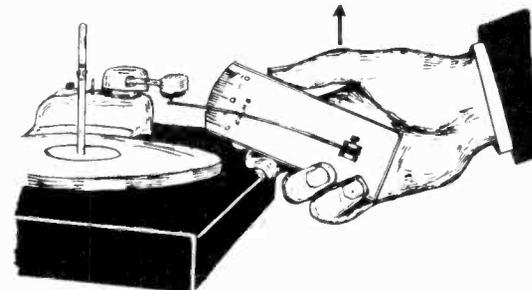
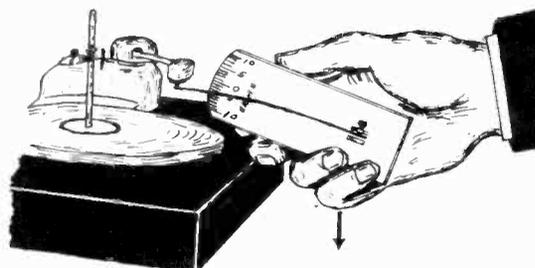

FIGURE 8
FIGURE 9
3. With a Gram Scale (if adjustment is being made for the 33 1/3 r.p.m. tone arm), test the up and down pressure of the tone arm. See Figures 8 and 9. This should be within the limits of 5 to 7 grams. If it is not, adjust the Tone Arm Spring Adjustment screw to provide the correct pressure.
Lift the micro-groove 33 1/3 r.p.m. tone arm, as shown in Figure 8, approximately 1/2 inch and make a note of the gram scale reading. Then lower the tone arm approximately 1/2 inch and again note the reading of the scale, as in Figure 9. The two readings noted are the limits of needle pressure. The actual needle pressure is taken as the average of these two readings. The difference between the two readings is referred to as the Vertical Friction. This should not be more than 2 grams.